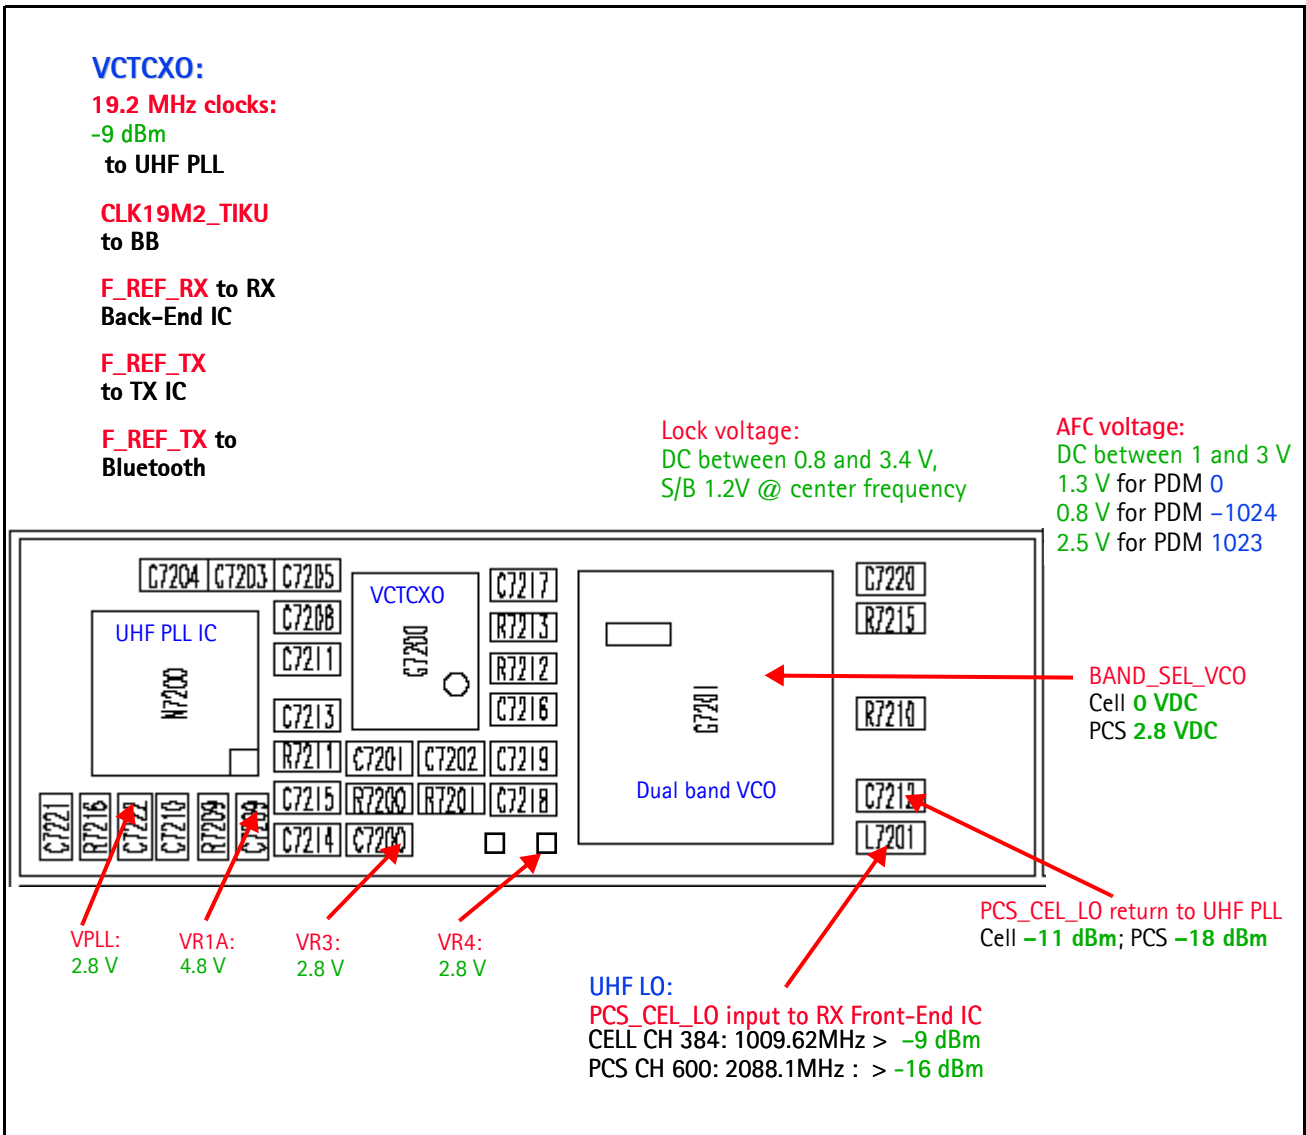

Figure 41: VCTCXO and UHF Synthesizer test points
- VCTCXO frequency is 19.2MHz. Without 19.2MHz, the mobile terminal does not power up. This signal goes to the N7100, N7000, D2800, and the UHF PLL. Check the test points in Figure 41 for the presence of the 19.2MHz signal.